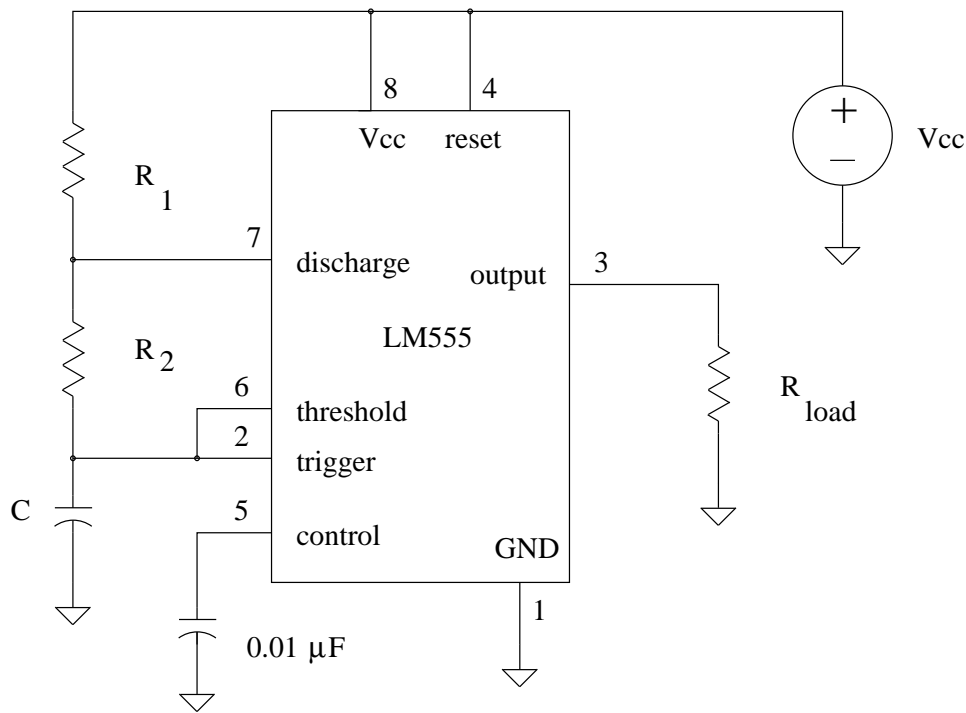

Figure 32: LM555 oscillator circuit
2. Visit icmaster.com, and if you haven't done so, register for this site. Locate and print out a data sheet for the LM555 timer. Determine the maximum V_{CC} that can be used in the circuit of Figure 32.
3. The circuit of Figure 32 produces a pulse-width modulated (rectangular wave) signal with
1. “Construct” the circuit of Figure 32 using Orcad[®]. Use the 555D part in the EVAL library. “Discharge” the capacitor so that the initial voltage across it is 0 V.
3. Verify that pin 3 has a duty cycle and frequency which matches step (3) of your prelab. If not, consult with your instructor.
1. For the circuit of Figure 32, compute the two pertinent time constants. Verify that these values make sense by examining your results of part (4) above.
2. What was the error between your simulated and hand calculated values for the duty cycle and oscillation frequency for the circuit of Figure 32?
3. Be sure to document all of your work for this lab. Provide enough information to back up your conclusions, particularly for bench work step (5). Your results for bench work step (4) will be used in the next lab.
1. Review the LM555 material from the previous lab until you understand the operation of the LM555 timer circuit. You will build the circuit of Figure 32 in this experiment.
1. Breadboard the circuit of Figure 32 with $R_1=1\ \text{k}\Omega$, $R_2=2.2\ \text{k}\Omega$, and $C=47\ \mu\text{F}$. If capacitor C is an electrolytic capacitor, the negative lead must be the grounded lead to prevent it from exploding. Do not apply power until your circuit has been checked by the instructor.